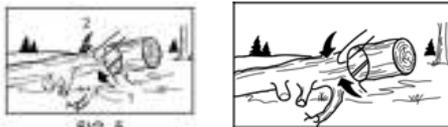

FIG. 5
- First cut from below for 1/3 of the trunk and then from the top down until the previous cut has been reached. (Fig 5).